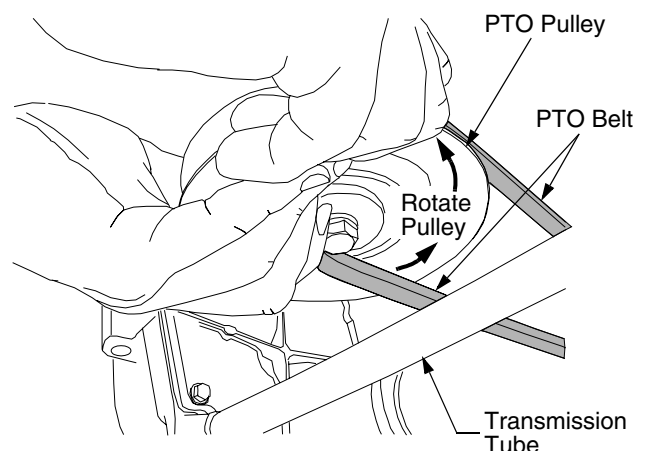

Figure 29
- Pull the right side of the belt rearward and place the narrow V side of the belt into the right/front side of the PTO pulley. See Figure 29.
- While holding the belt and pulley together, rotate the pulley to the left (See Figure 29). Continue holding and rotating the pulley and belt until the belt is fully rolled into the PTO pulley. **NOTE: If using the left side of the belt, turn the pulley to the right.**